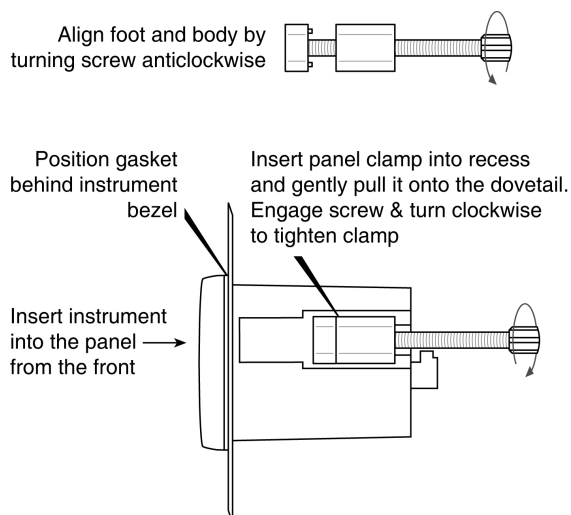

Fig 5 Fitting panel mounting clamps
- Place a clamp in the recess on each side of the indicator, pulling gently to slide it onto the dovetail as shown in Fig 5. Push the knurled screw slightly forward to engage the thread and tighten by turning clockwise until it is just finger tight. When both clamps are fitted ensure that the gasket behind the front panel bezel is correctly positioned before fitting the other two clamps and fully tightening all the clamps to secure the instrument. The maximum recommended clamp tightening torque is 22cNm (1.95 lbf in) which is approximately equivalent to finger-tight plus one half turn. **Do not over tighten.**